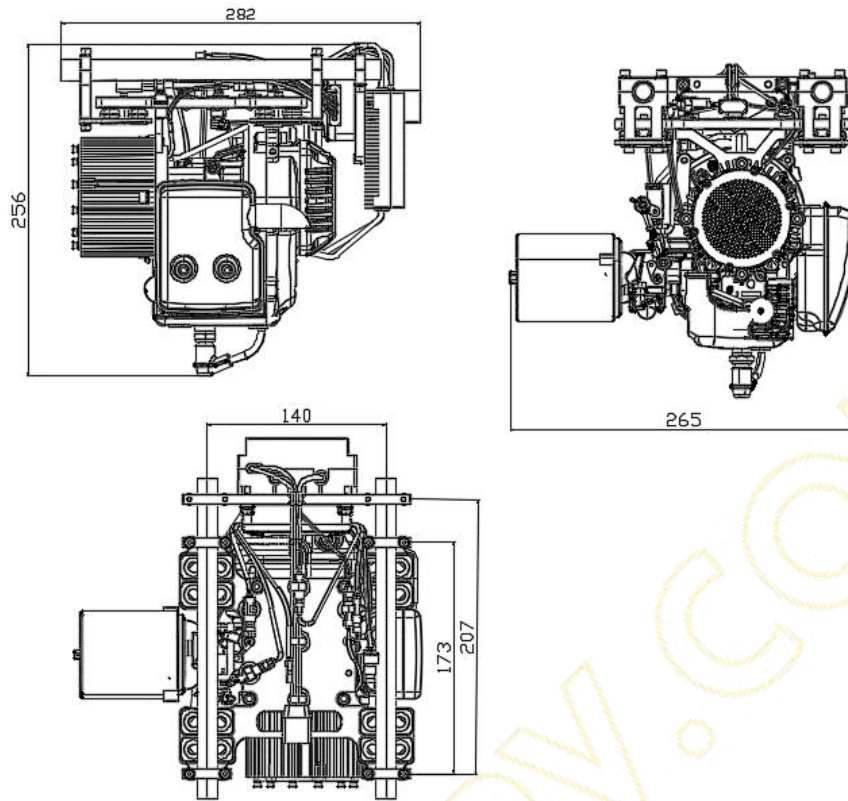

Fig 4
5.2 The installation dimensions of aviation hybrid system Halo-2000 Generator are shown in Figure 4 below: